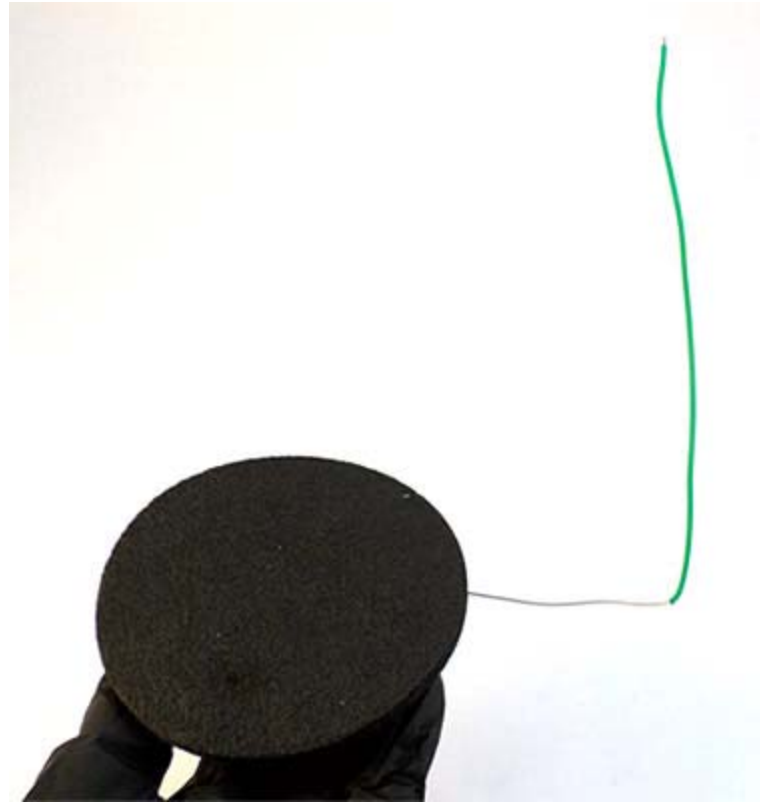

Figure 3. Insert the metal part of the green wire into the anode circle.
7. Straighten the metal part of the green wire and carefully insert it into the anode, as shown in Figure 3. Make sure the wire goes straight and does not poke out on the top or bottom sides of the anode.